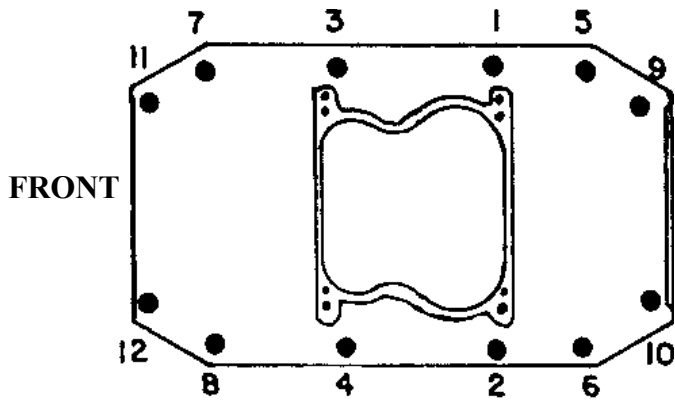

Figure 1
2. Torque all bolts 1-through-12 to 25 ft. lbs. See Figure 1 for proper sequence.